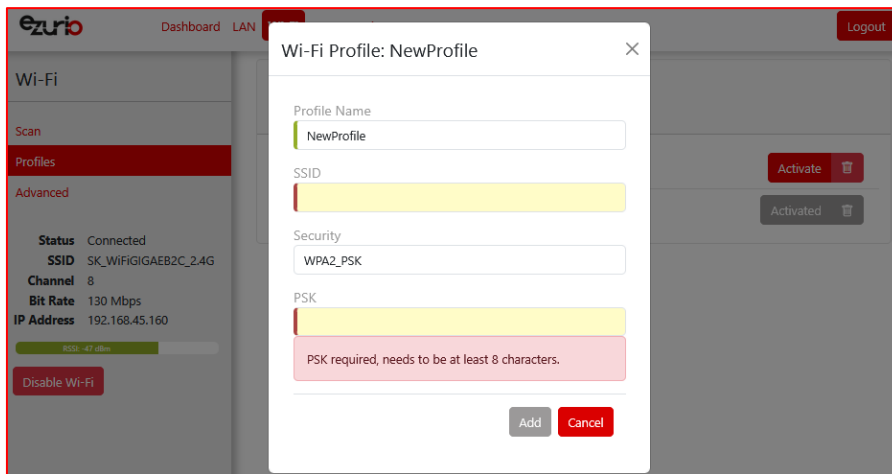

Figure 25: Wi-Fi profile dialog
- Click **+ Profile** to display the Wi-Fi profile dialog (Figure 25).